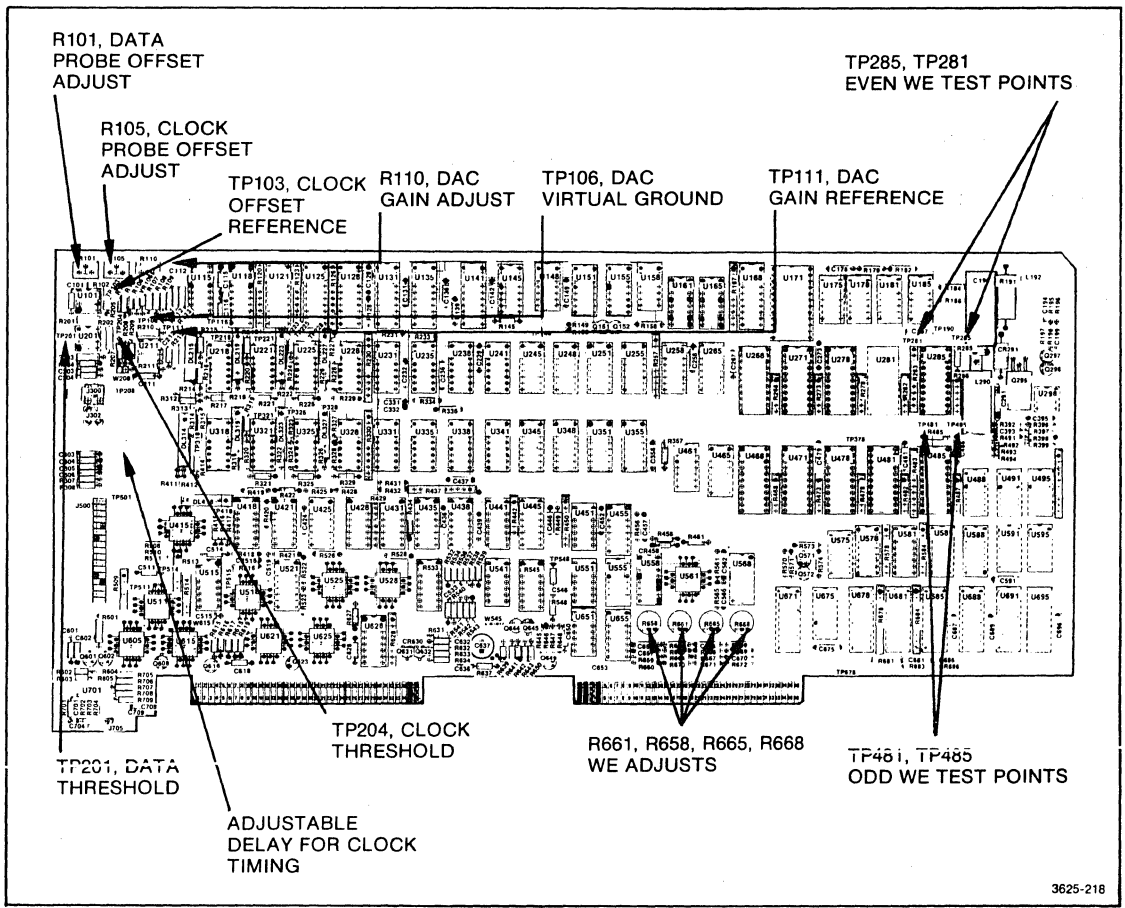

Figure 5-54. 91A08 test point and adjustment locations.
5. Connect the positive lead of the DMM to TP201 on the 91A08 (see Figure 5-54). Connect the DMM ground lead to TP106 on the 91A08.
3. Insert the jumper at J208 pins 1 and 2 on the 91A08 (see Figure 5-54).
4. Move the positive lead of the DMM to TP111. Leave the ground lead at TP106 (see Figure 5-54).
4. Attach the probe for channel 1 of the oscilloscope to test point EA0 (TP281) on the 91A08. Attach the probe for channel 2 of the scope to EWE (TP285) (see Figure 5-54). The ground leads of the probes can be attached at any ground test point on the 91A08.